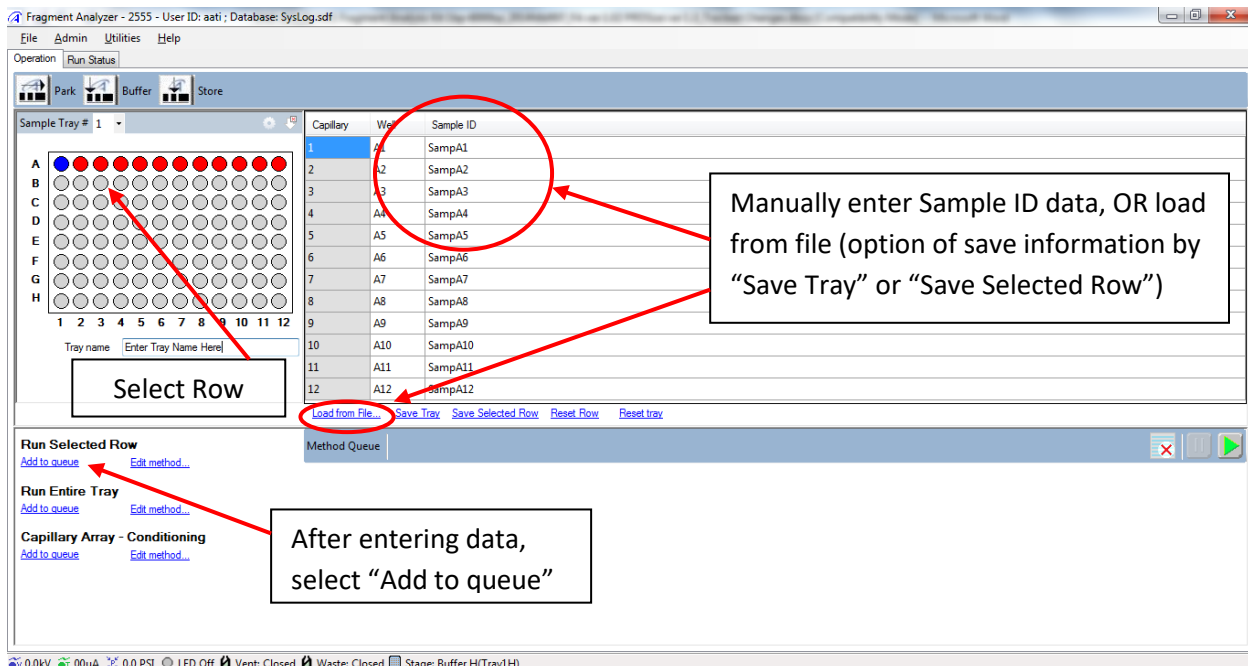

Figure 3. Main Screen showing selection of sample row and entering sample information
1. To set up an experiment, from the Main Menu of the *Fragment Analyzer*[™] instrument control software, select the **Operation** tab (Figure 3). Select the sample tray location to be analyzed (1, 2, or 3) by left clicking the **Sample Tray #** dropdown or by clicking the appropriate sample plate tab (alternate plate view) and choosing the appropriate location. 96-Capillary Systems: Note that Sample 3 is typically assigned to the Capillary Storage Solution.
- Left click a well of the desired sample plate row with the mouse. The selected row will be highlighted in the plate map (e.g., Row A in Figure 3). Enter the sample name if desired into the respective **Sample ID** cell by left clicking the cell and typing in the name. Alternatively, sample information can be imported from .txt or .csv file by selecting the **Load from File...** option.